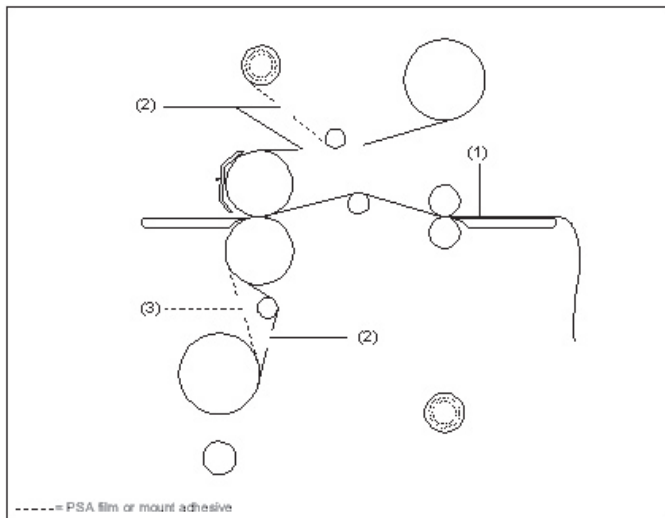

Fig 32
1. Using the rear slit, cut (1) the output from the web (Figure 32).
2. Cut (2) remaining top film web between the idler bar and heat roller. PSA film, cut the release liner too.
3. Cut (3) the film web between the lower film supply and the idler bar (Figure 32).